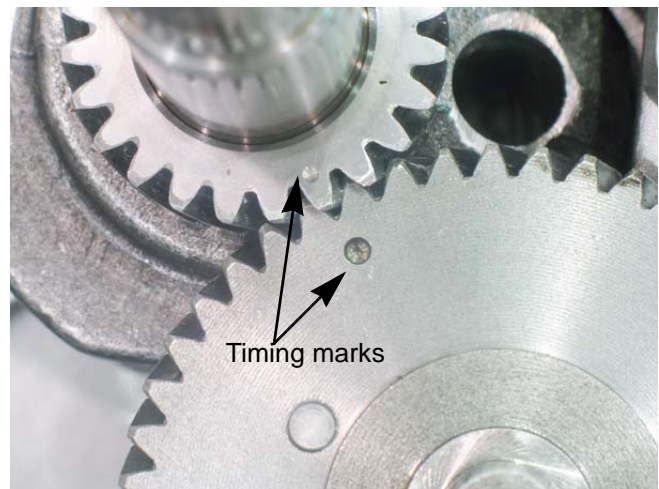

Figure 10.22
- 6c. Insert the cam shaft while aligning the timing marks. See Figure 10.22.